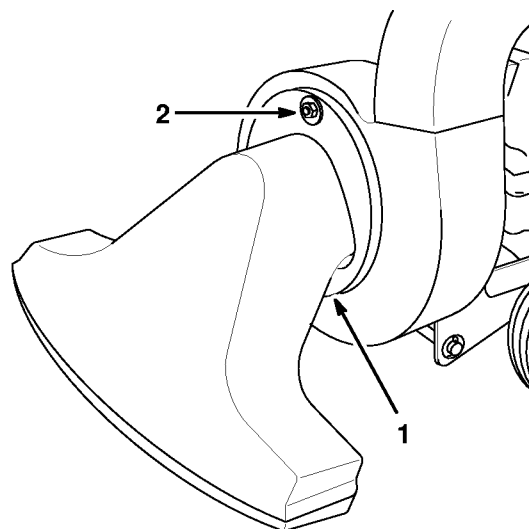

Figure 9
2. Secure snout to blower with washer and locknut (Fig. 9).
3. Remove filler plug from crankcase (Fig. 9).